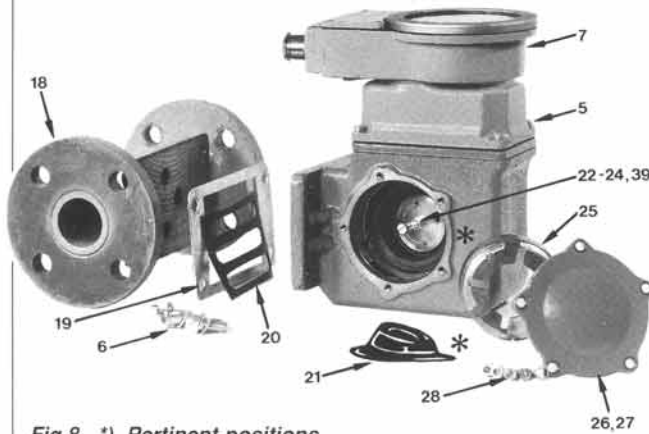

Fig. 8 *) Pertinent positions
Replacing the membrane *Refer to Fig. 8*
- to ensure that the pointer does not make contact with the housing, the deflection is limited by stop screw (24), Fig. 8. The stop is incorporated to prevent the overloading of the spring.